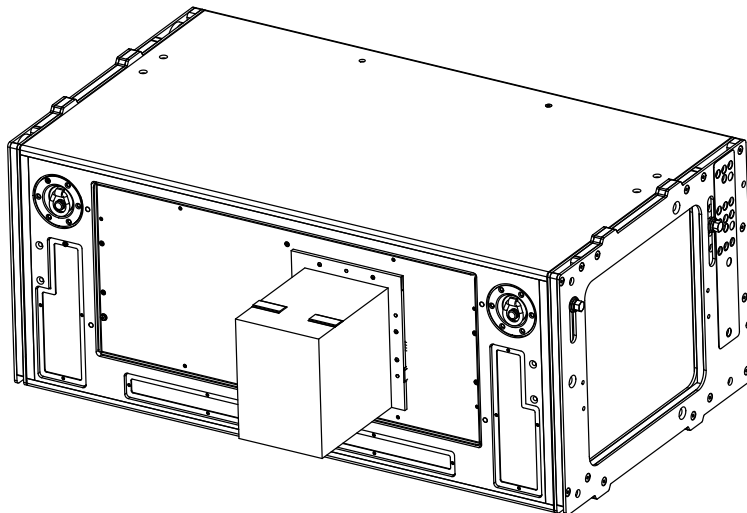

Figure 20: LEO-M with Rain Hood Expanded
4. Fold the two struts downward and outward and insert them into the two side pockets to expand (Figure 20).